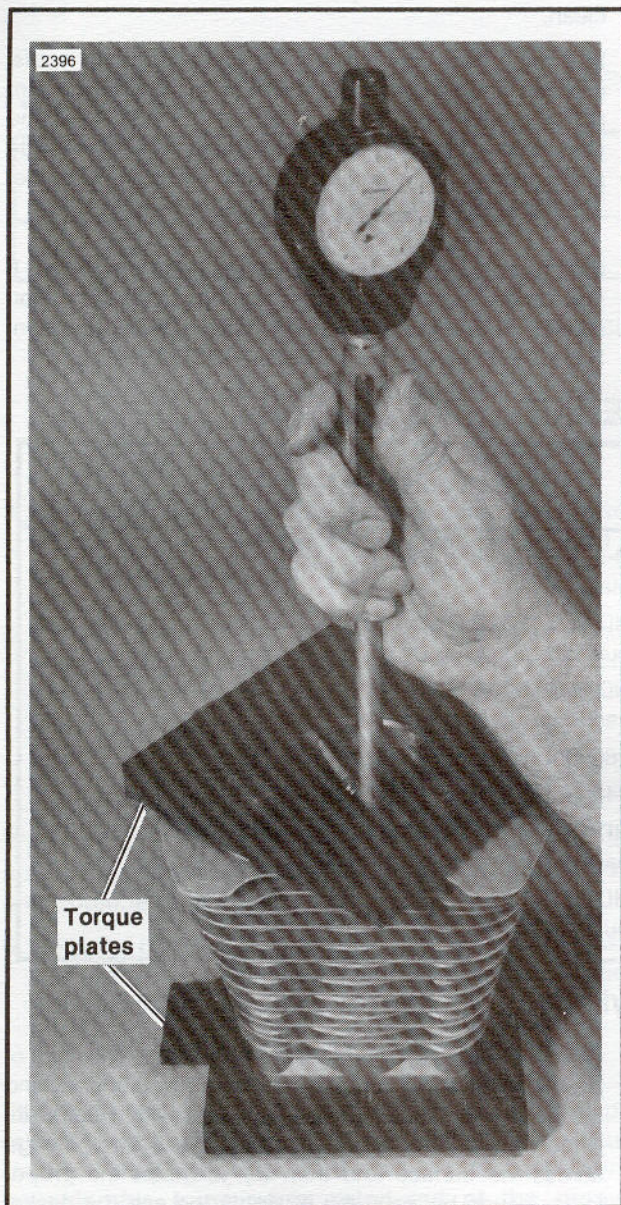

Figure 3-31. Measure Cylinder Bore
- See Figure 3-31. Take cylinder bore measurement in the ring path, starting about 0.500 in. from the top of the cylinder measuring from front to rear and then side to side. Record readings.